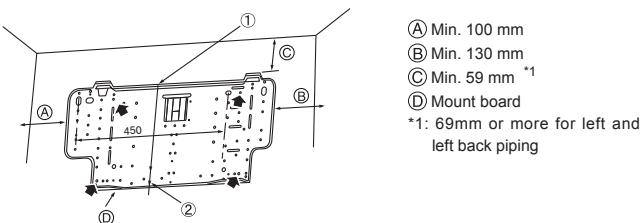

Fig. 3-3
- The mounting fixture must be secured at both ends and at the centre, if possible. Never fix it at a single spot or in any unsymmetrical way. (If possible, secure the fixture at all the positions marked with a bold arrow.) (Fig. 3-3)